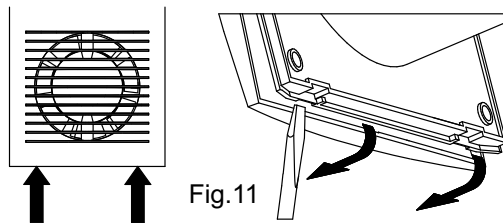

Fig.11
3. The inner grille is removed as shown in fig. 11
4. The electric heater is switched on on the Control panel fig. 11 – HEATER OFF/ON or in Menu Block HEATER – Heater Block 10,11,12 – Double CLICK to HEATER OFF/ON
4. The electric heater is disabled on the Control panel fig. 11 – HEATER OFF/ON or in Menu Block HEATER – Heater Block 10,11,12 – Double CLICK to HEATER OFF/ON